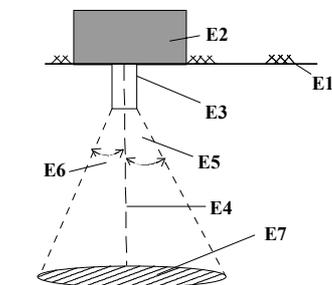

Figure 7: Collection cone when using the fibre rod with a plane surface
- D5 Optical fibre rod (see mounting instructions page2, fig.7+8)
- E1 Optical fibre rod (see mounting instructions page2, fig.7+8)
- The collection cone shown in figure 7 results when using the white-painted optical fibre rod with a plane light-sensitive surface (standard optical fibre rod).